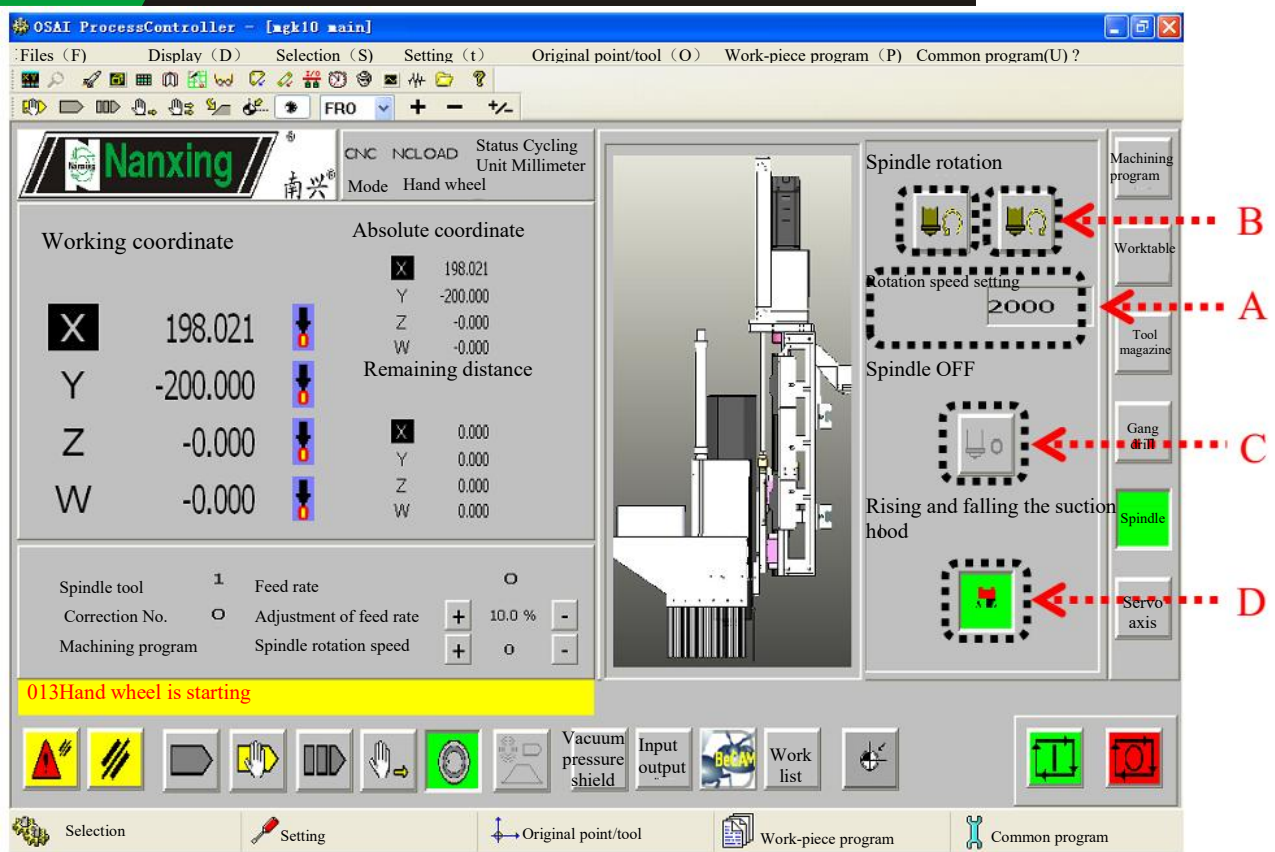

Fig.6.9
2. Input the rotation speed of spindle (RPM), as shown in Fig.6.9(A).
3. Click  (Clockwise rotation) or  (Counterclockwise rotation) to rotate the spindle, as shown in Fig.6.9(B)
4. Click  to stop the rotation of spindle, as shown in Fig. 6.9(C).
5. Click  (rising and falling the suction hood) to control the suction hood rise and fall, as shown in Fig. 6.9(D).